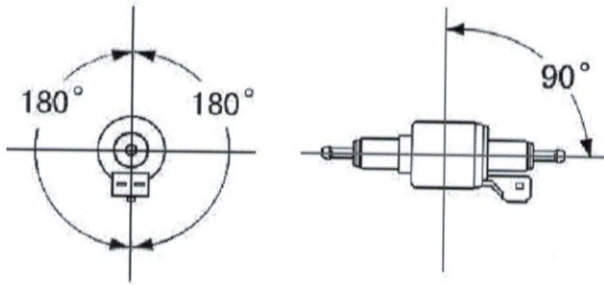

Fig. 13
4.4.3.2 Directions of installation of the fuel pump are shown in Fig. 13. When installing the fuel pump, please use the fuel pump holder supplied with the heater to hold the pump tight. The pump is fixed with the